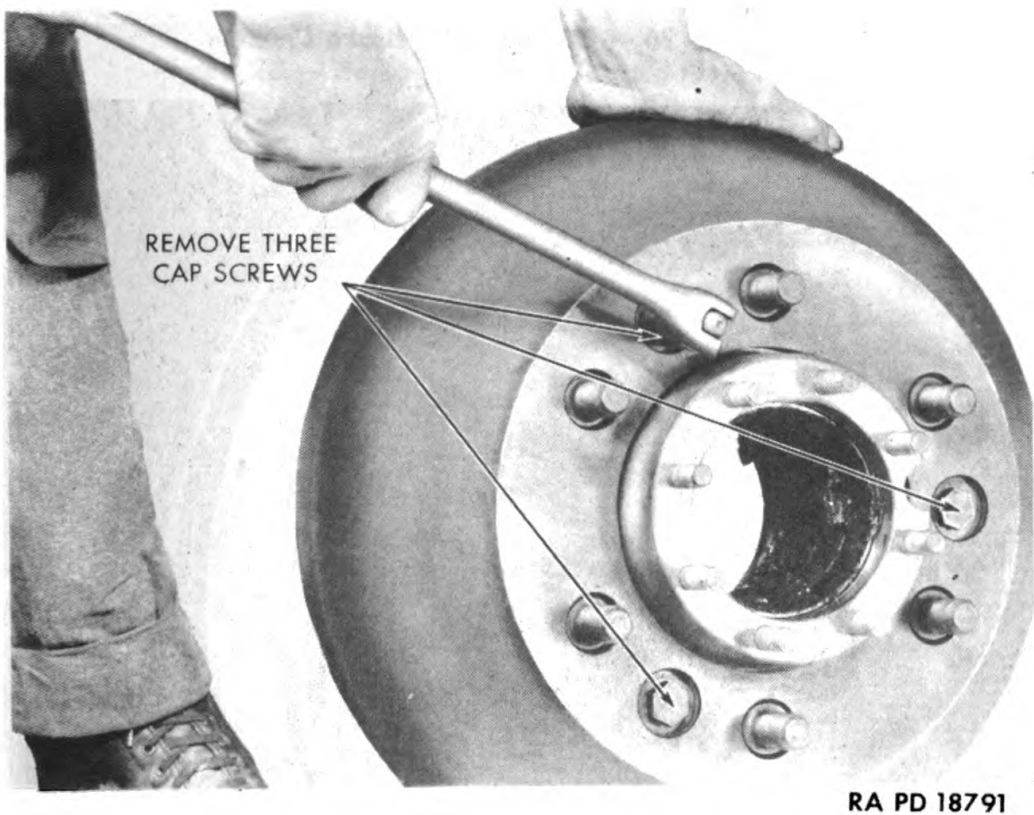

Figure 25 — Removing Brake Drum Cap Screws
c. **Remove Brake Drum from Hub.** Remove three cap screws and lock washers from brake drum, and remove brake drum from hub (fig. 25).